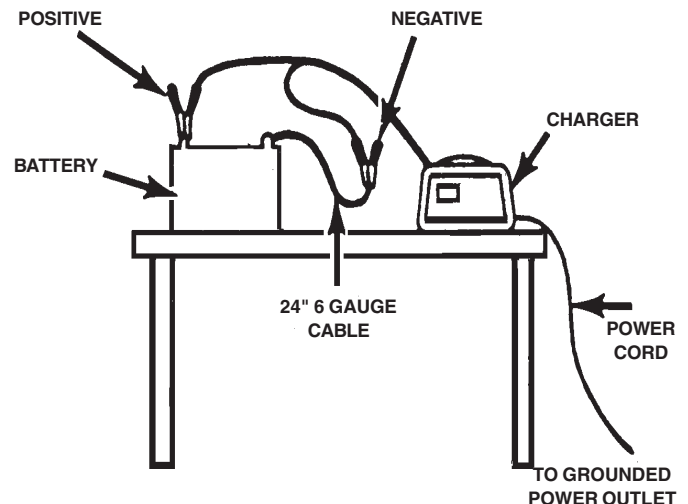

FIGURE 8 CONNECT NEGATIVE BATTERY CLIP TO 24 INCH CABLE END
6. For a positive-grounded vehicle, connect NEGATIVE (BLACK) clamp from battery charger to NEGATIVE (NEG, N, -) ungrounded post of battery. Connect POSITIVE (RED) clip to vehicle chassis or engine block away from battery. Do not connect clamp to carburetor, fuel lines, or sheet-metal body parts. Connect to a heavy gage metal part of the frame or engine block. (Figure 8)